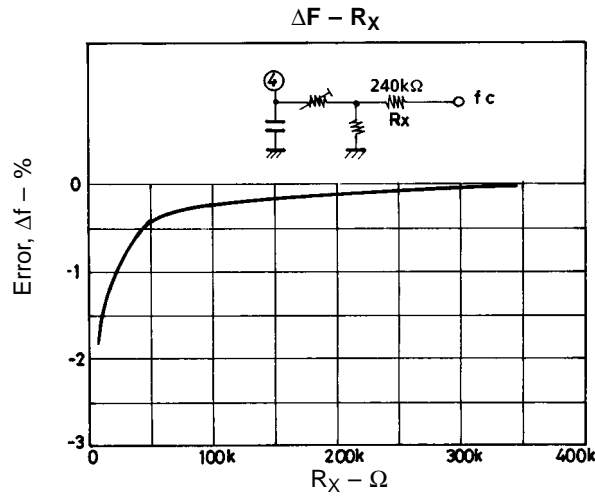

Figure 2
- b) Connect the connection point of the semifixed resistor connected to pin 4 and the fixed resistor to a frequency counter through the R_X of 240 k Ω . Fig. 2 shows how the error changes as the R_X value is decreased.